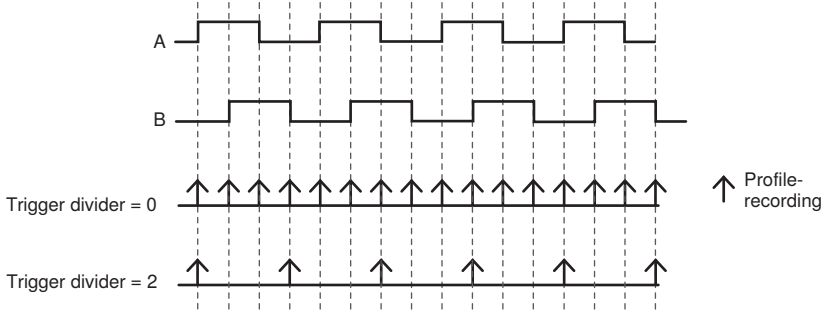

Fig. 62: Trigger divider
- » Trigger divider: 0 and 2 (see Fig. 62)
Example: If "149" is entered under "Trigger divider", the sensor records a profile for pulse 150, 300, 450 etc. (see also Fig. 62). The maximum allowed input frequency at the I/O is 1 MHz.